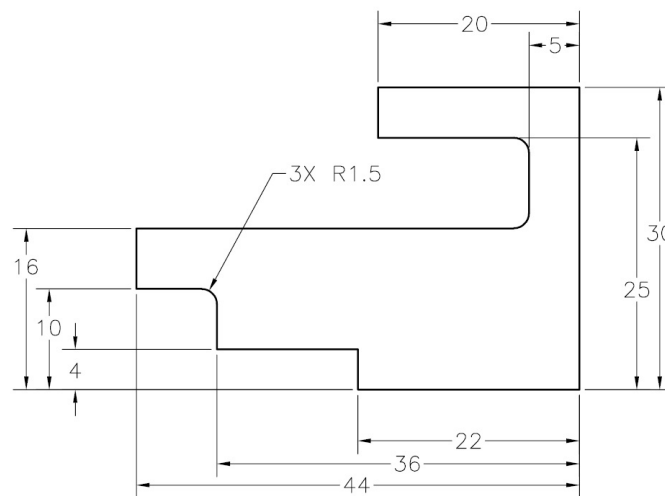
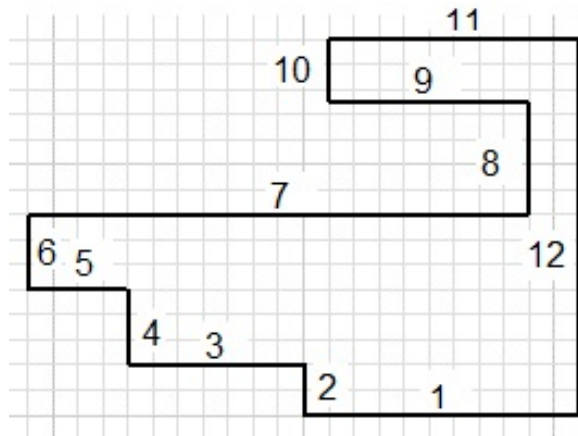

Figure 3-53 Sketch for Tutorial 2
Figure 3-54 Lines numbered in the sketch
In this tutorial, you will draw the sketch shown in Figure 3-53. This sketch is the same as the one drawn in Tutorial 4 of Chapter 2. After drawing it, you will apply the required constraints and dimensions to fully constrain it. **(Expected time: 30 min)**
- b. Invoke the Sketching environment and draw the initial sketch by using the **Line** tool, refer to Figure 3-54.
1. Draw the initial sketch, as shown in Figure 3-54, using the **Line** tool. The lines in the sketch are numbered for your reference.
Dimensioning and Constraining the Sketch The dimensions shown in Figure 3-53 are linear dimensions. As the sketch is for a revolved feature, you need to add linear diameter dimensions to it. It is recommended that you first apply all the dimensions and then add fillets to the sketch. This is because the size of a sketch generally changes after dimensioning. Before adding dimensions to a revolved section, it is important to determine which line segment of the sketch will act as the axis for revolving the sketch. If you refer to Figure 3-54, you will notice that line 1 acts as the axis to revolve the sketch for the model. Therefore, while applying linear diameter dimensions, line 1 should be selected first.
Figure 3-53 shows the value to be specified as **4** because the linear diameter dimensions are placed twice.